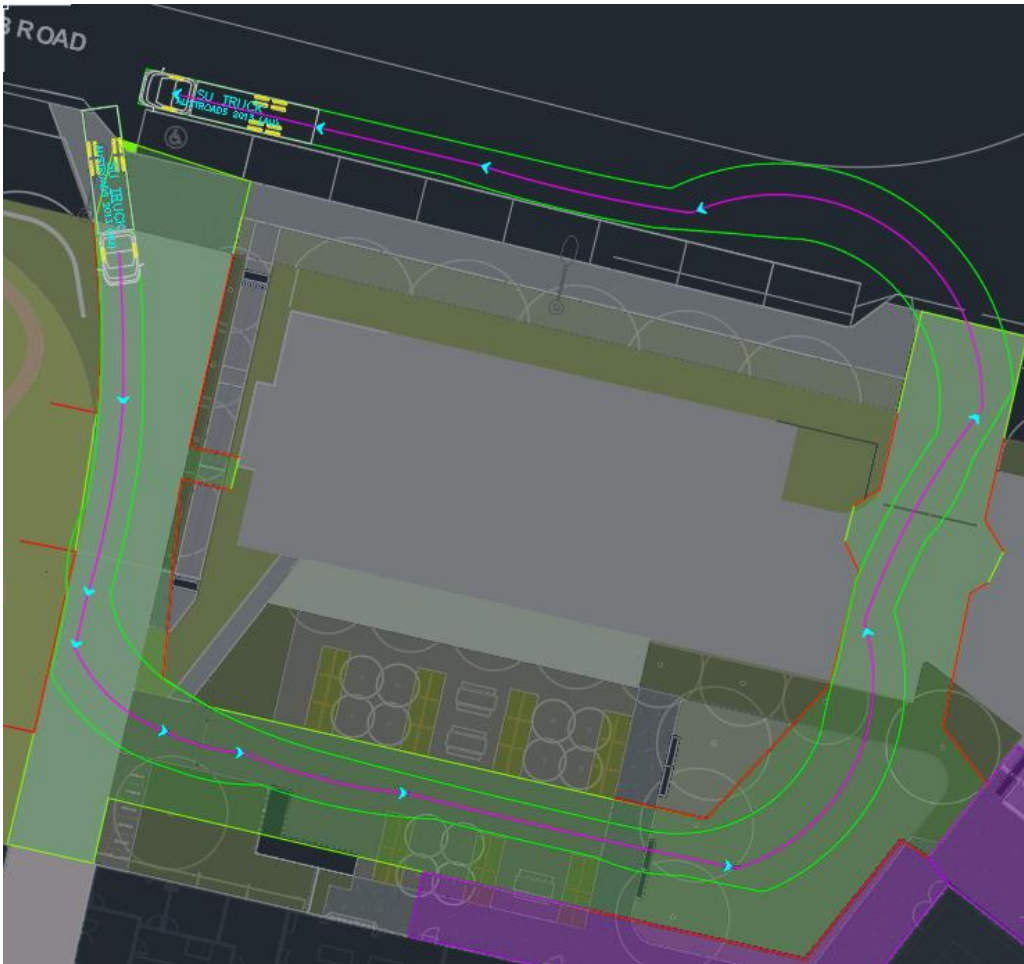

Figure 8 Waste collection vehicle
- A waste collection vehicle (size 12.5 metre) entering the site via Gate 2 and exiting the site via Gate 1 (refer to Figure 8).